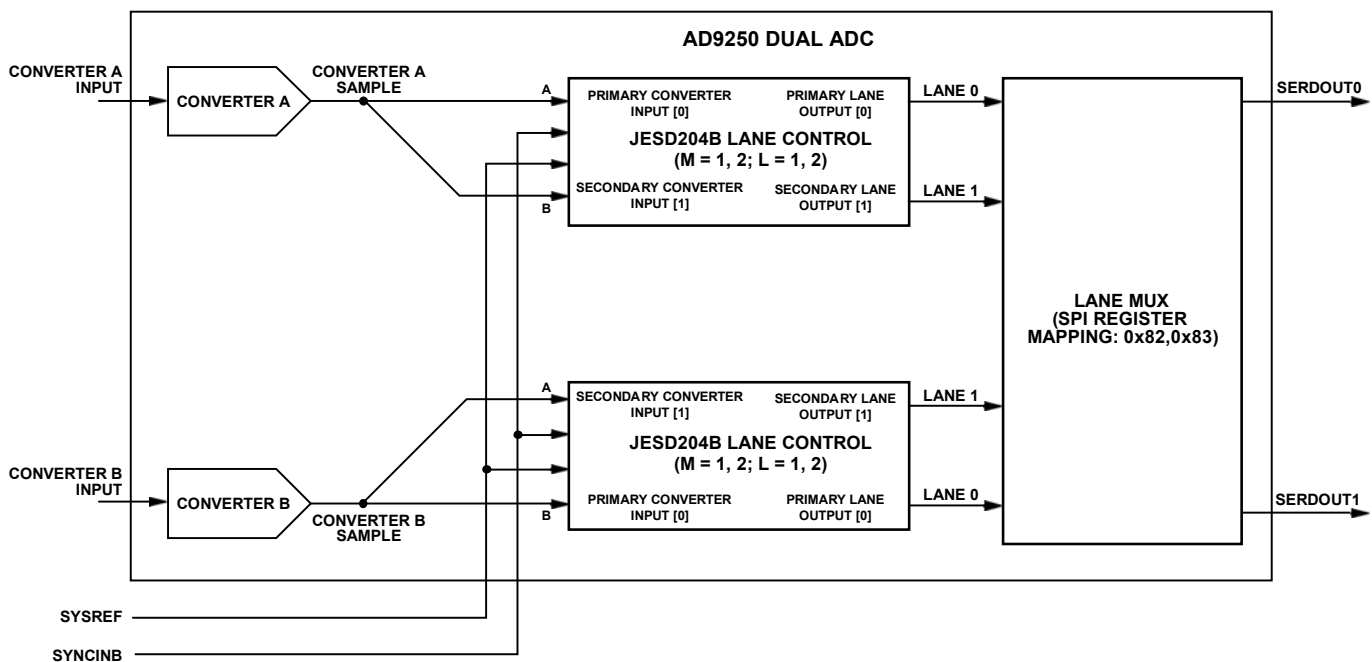

Figure 54. AD9250 Transmit Link Simplified Block Diagram
- Option to remap converter and lane assignments, Register 0x82 and Register 0x83. See Figure 54 for simplified block diagram.